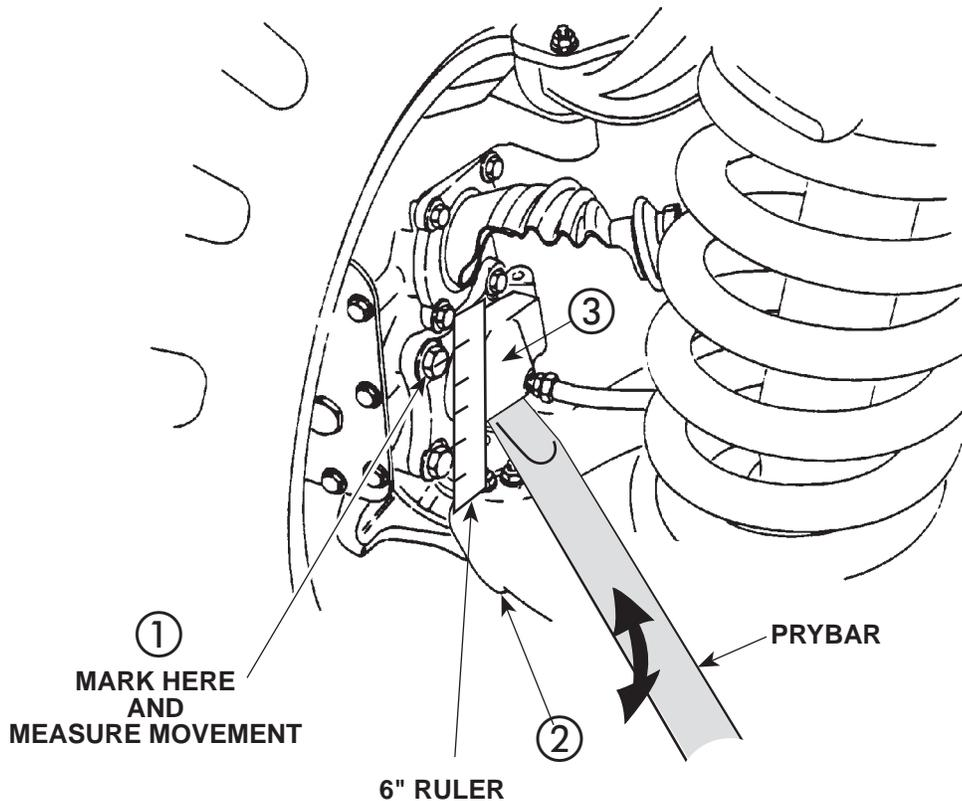

Figure 7-2. Lower Ball Joint Inspection.
b. Ball Joint Inspection (Figure 7-2)